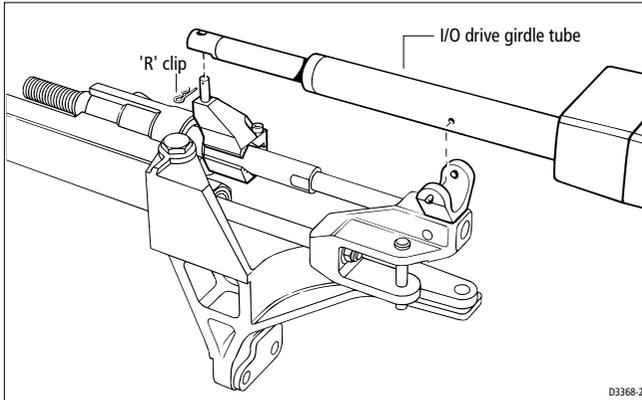

Figure 6: Fitting the I/O drive unit (Volvo)
3. Fit the I/O drive into the girdle support bracket (see *Figure 6*):